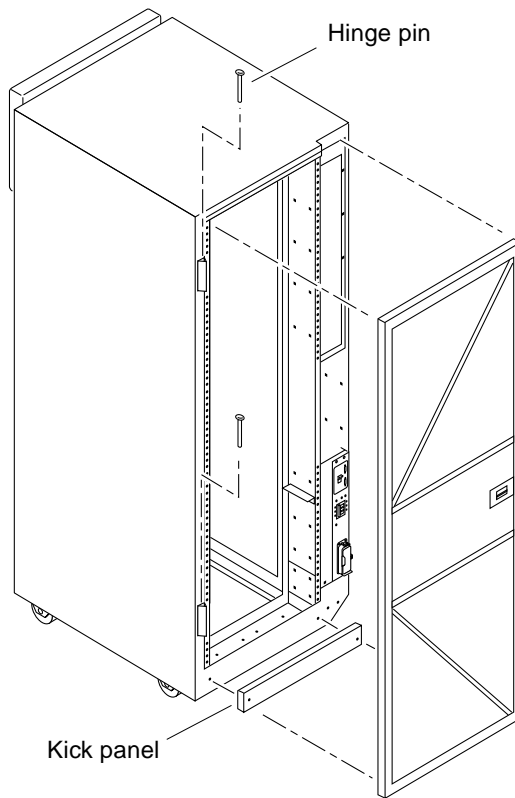

FIGURE 2-2 Removing the Kick Panel and the Rear Door
- 2. If you are installing interface cables in the cabinet, loosen the two screws on the kick panel and remove it (FIGURE 2-2).**